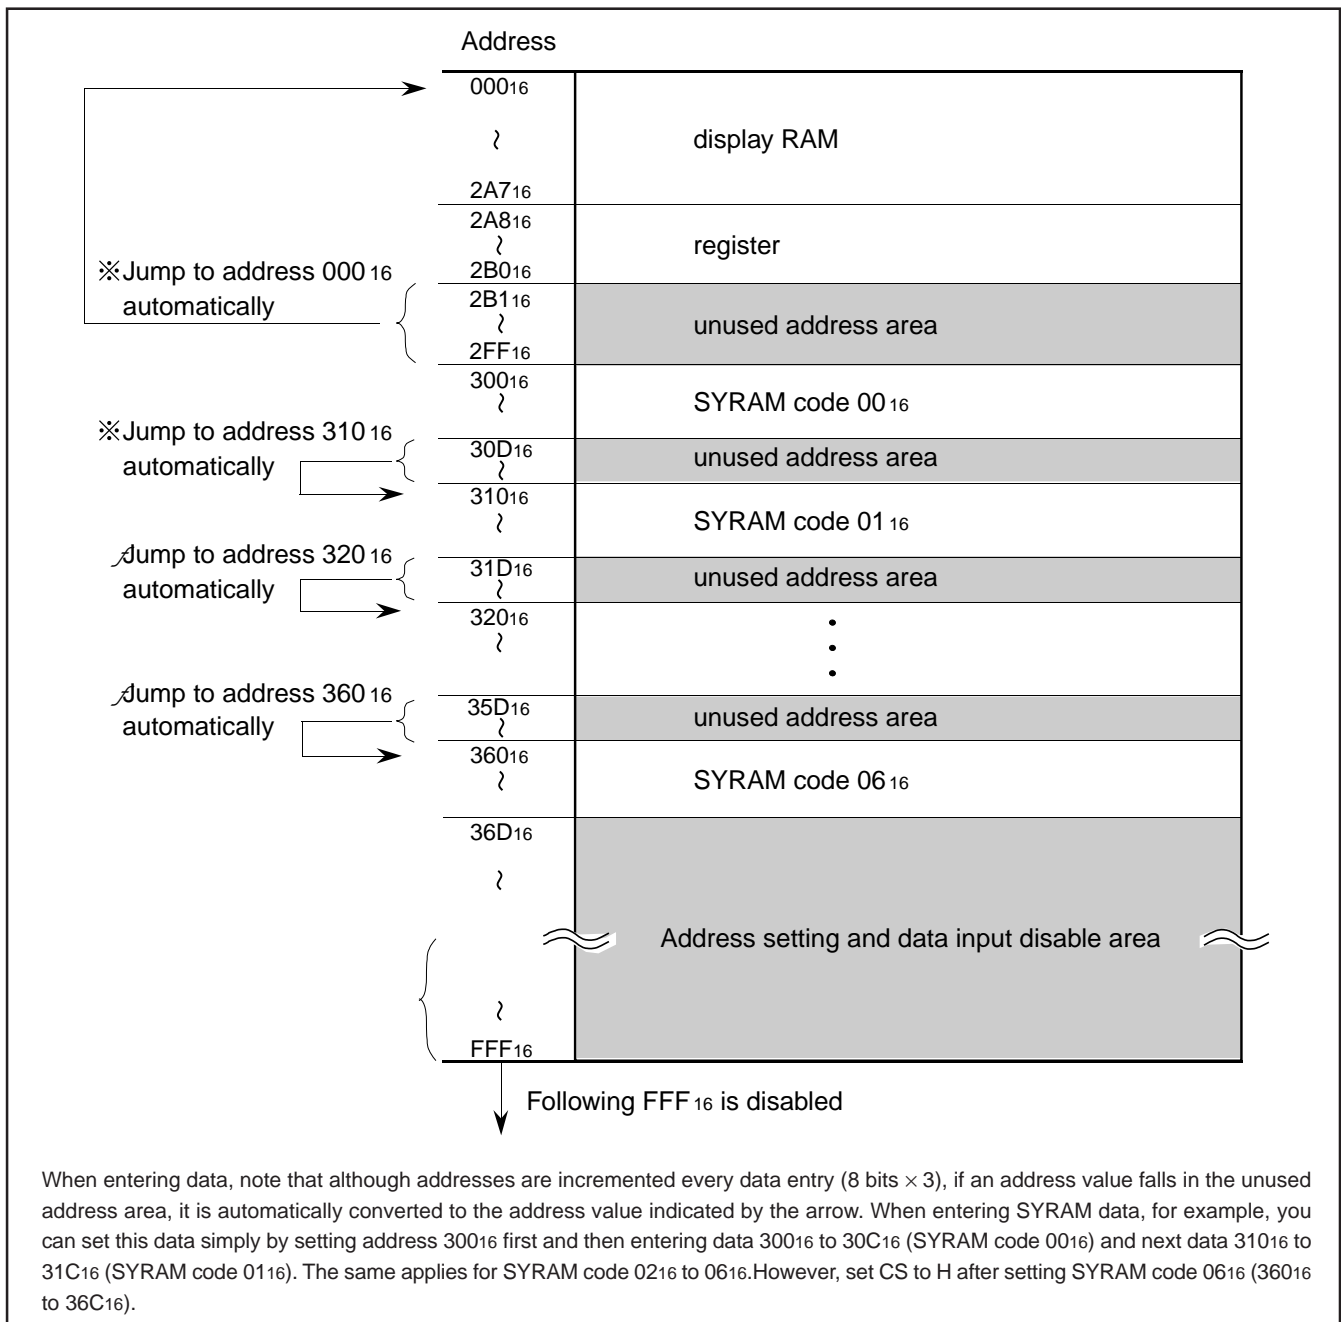

Fig. 12 Address construction
- (1) The address consists of 8 bits \times 3.
- (2) The data consists of 8 bits \times 3.
- (3) The 8 bits \times 3 in the SCK after the \overline{CS} signal has fallen are the address, and for succeeding input data, the address is incremented every 24 bits (8 bits \times 3). Refer to Fig.12 about detail for address increment.